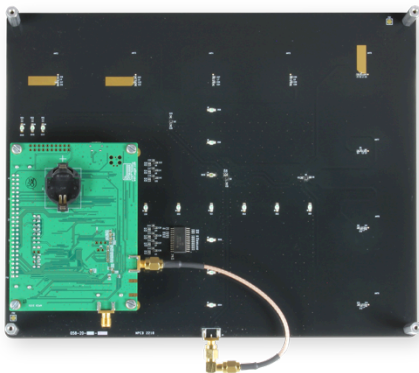

Figure 4 - Locator Antenna Array (Bottom Side)
- Figure 4 - Locator Antenna Array (Lower Side)